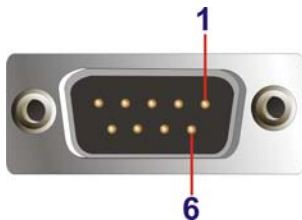

Figure 3-35: RS-232 Serial Port
- CN Pinouts:** See **Table 3-7** and **Figure 3-35**